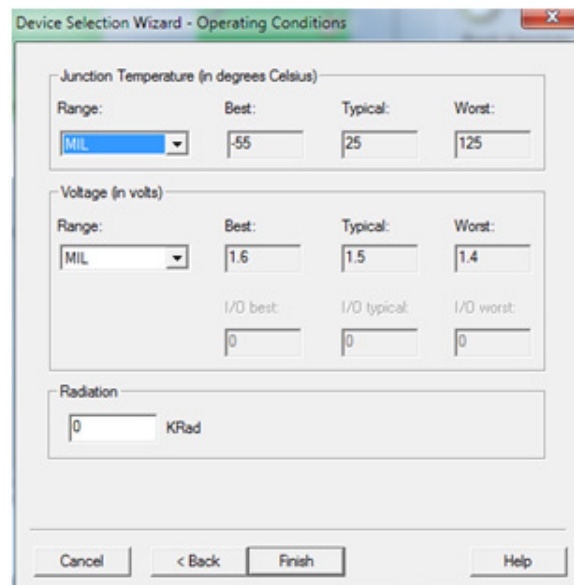

Figure 6 • Setting Conditions in the Device Selection Wizard
1. Set the desired temperature and voltage conditions (operating ranges) in the Device Selection Wizard as shown in Figure 6.